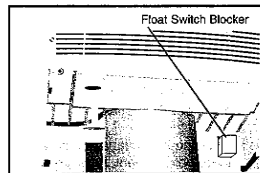

Fig.3
- Remove the float switch blocker (accessories bag) and insert the blocker into the float switch assembly compartment (Fig. 3) located (top right hand rear corner) inside the cabinet (water tank) enclosure area.